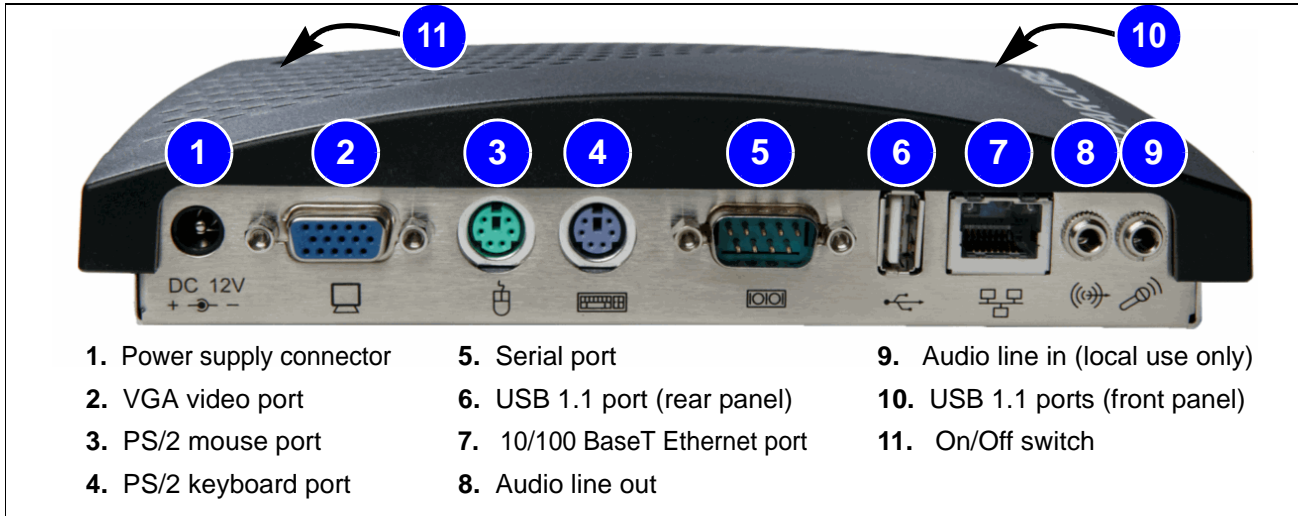

Figure 5. I8020 and I8820 I/Port Connections
- I8020 or I8820 I/Port—Figure 5 on this page